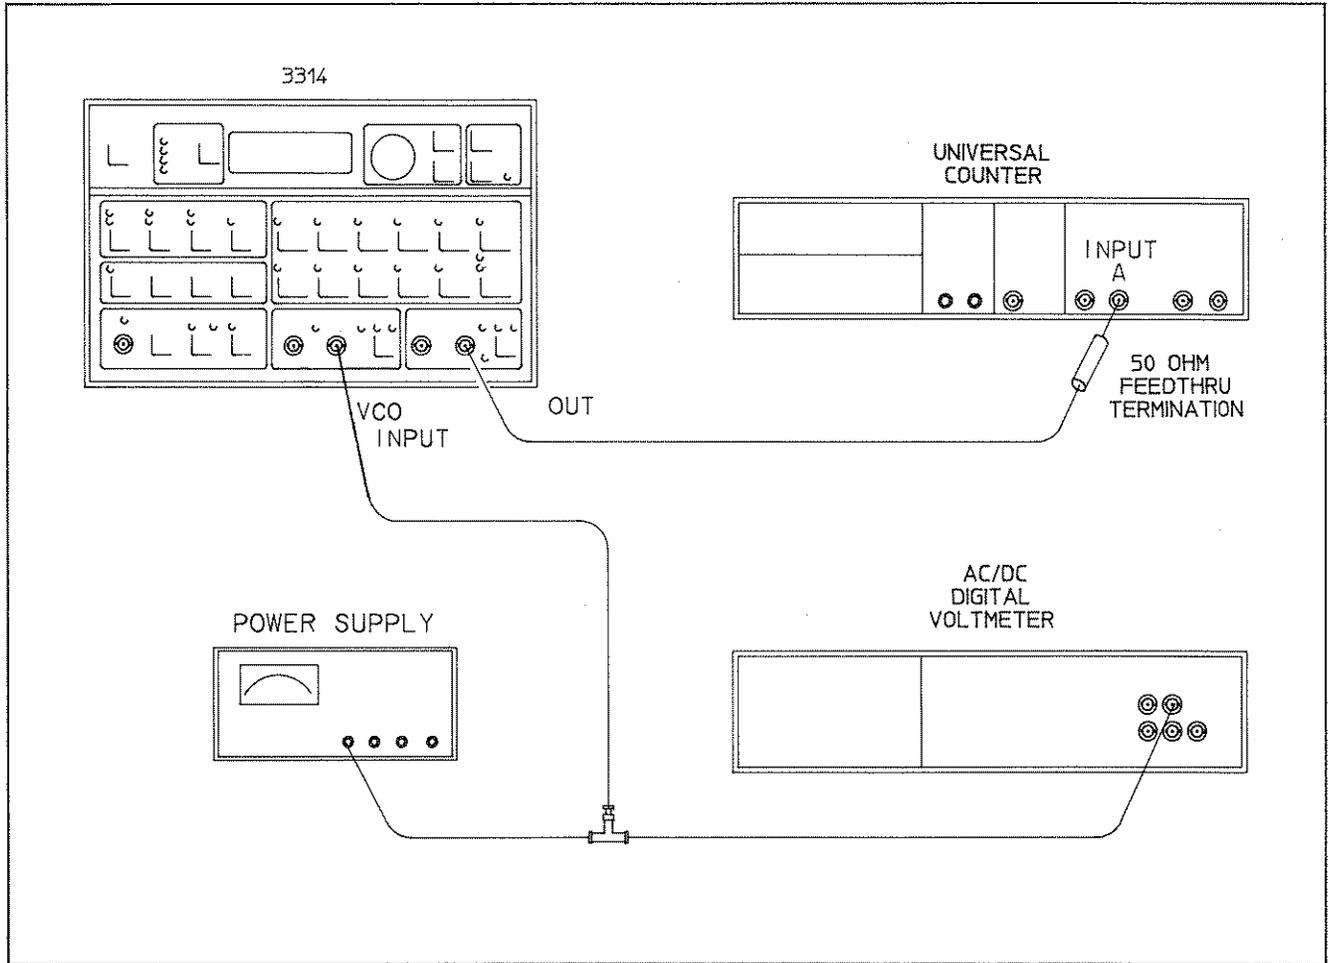

Figure 4-11. VCO Linearity
E. Connect the Counter, Voltmeter, and Power Supply to the 3314A as shown in Figure 4-11.